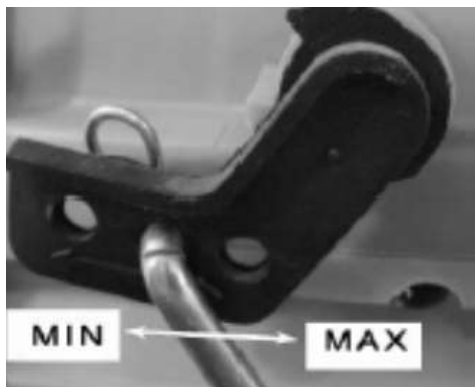

Fig 12
(2)Dusting.Regulate the discharge by shifting the dust rod's position in the three holes of the rock-arm.See Fig.12.